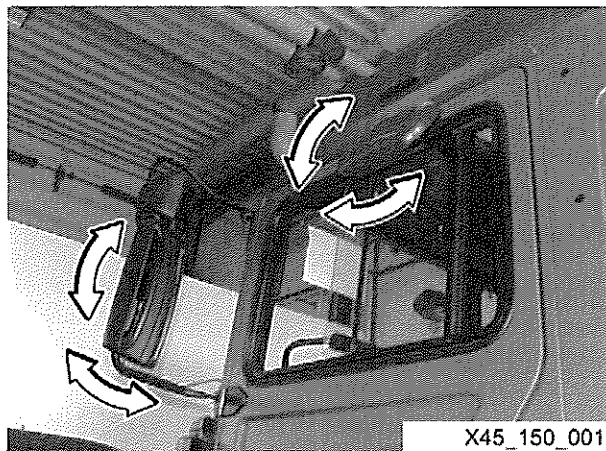

Fig 8 Adjusting the rear view and kerb mirrors
- 18 Refer to Fig 8. To adjust the rear view mirrors, proceed as follows: